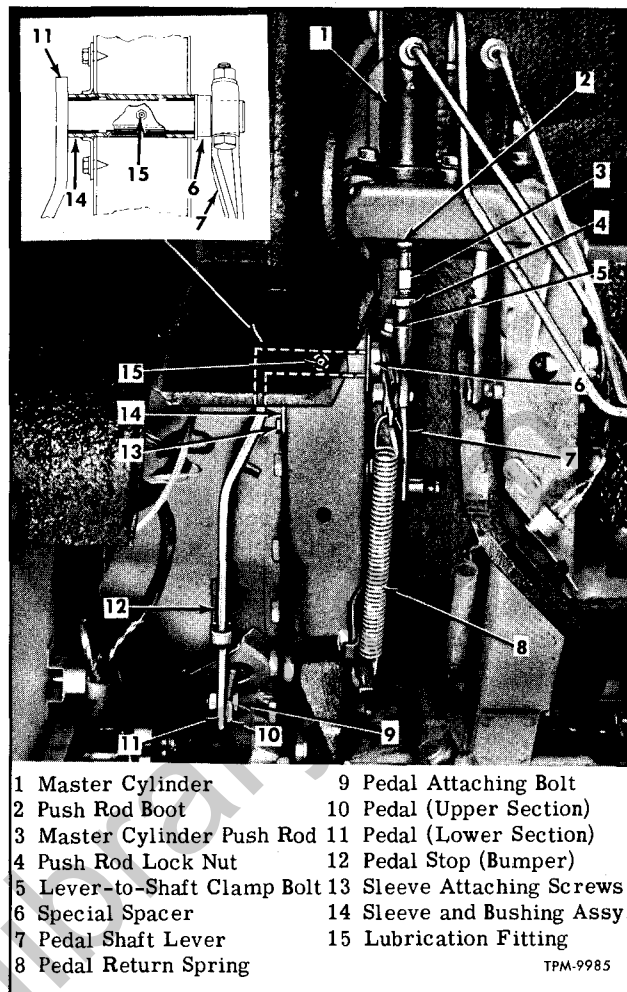

Figure 23—Clutch Pedal and Linkage (Typical—TM 80 and TV 70)
NOTE: Key numbers in text refer to figure 23.
7. Referring to figure 23, install clutch pedal return spring (8).